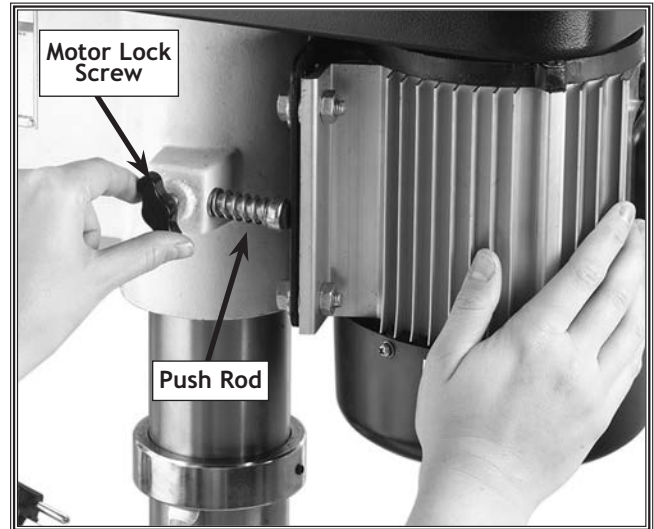

Figure 26. Motor lock screw.
3. Loosen the motor lock screw at the side of the headstock, as shown in **Figure 26**.